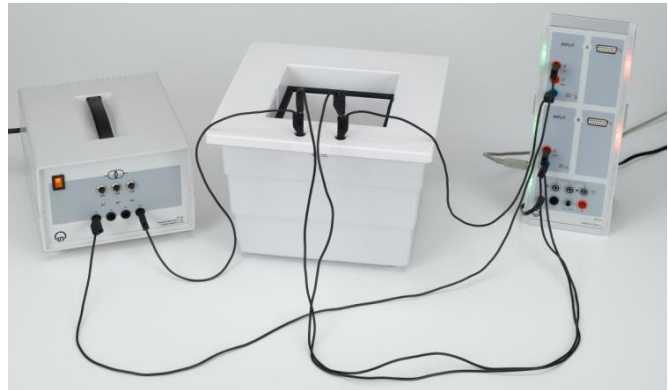

Fig. 2. Determination of the hot plate's power.
The experiment's setup is represented in Fig. 2.
- Connect the transformer and the calorimetric chamber to Sensor-CASSY as shown in Fig. 2 to measure the voltage and current.